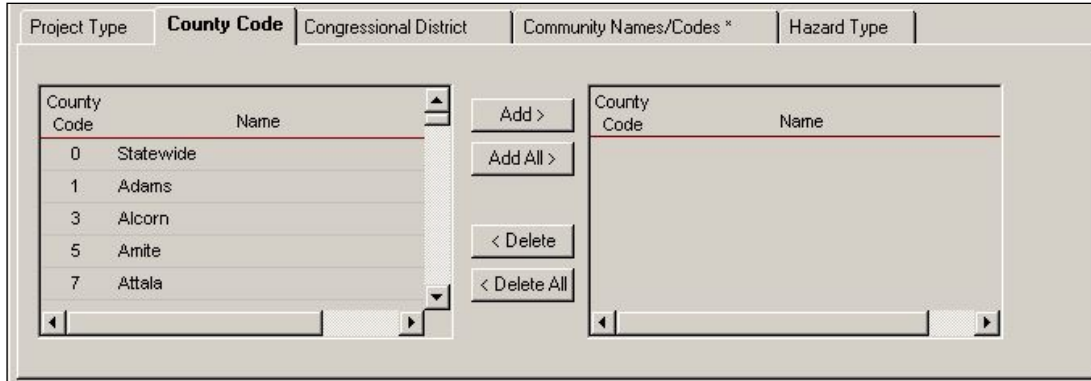

Figure 6-32: Mitigation > Projects > Application Development > Project Info > County Code Sub-tab
11. Click the **County Code** sub-tab (Figure 6-32).